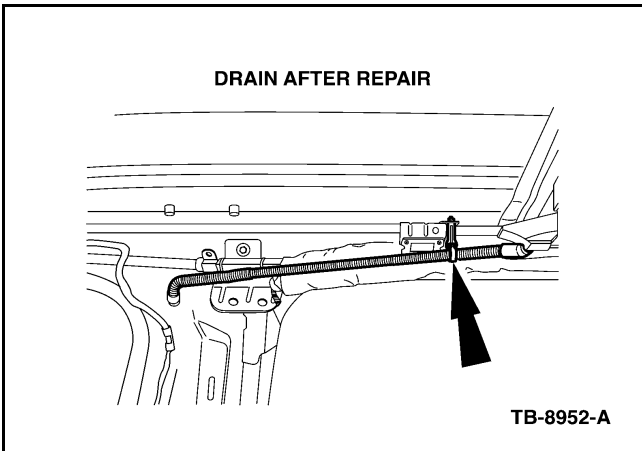

Figure 3 - Article 07-20-6
6. Attach the hose clip to the coat hook support bracket. (Figure 3)
Make sure the drain hose is placed under the coat hook bracket. (Figure 3)
7. Make sure there is no slack left in the hose as it leads up to the roof opening panel module. (Figure 3)